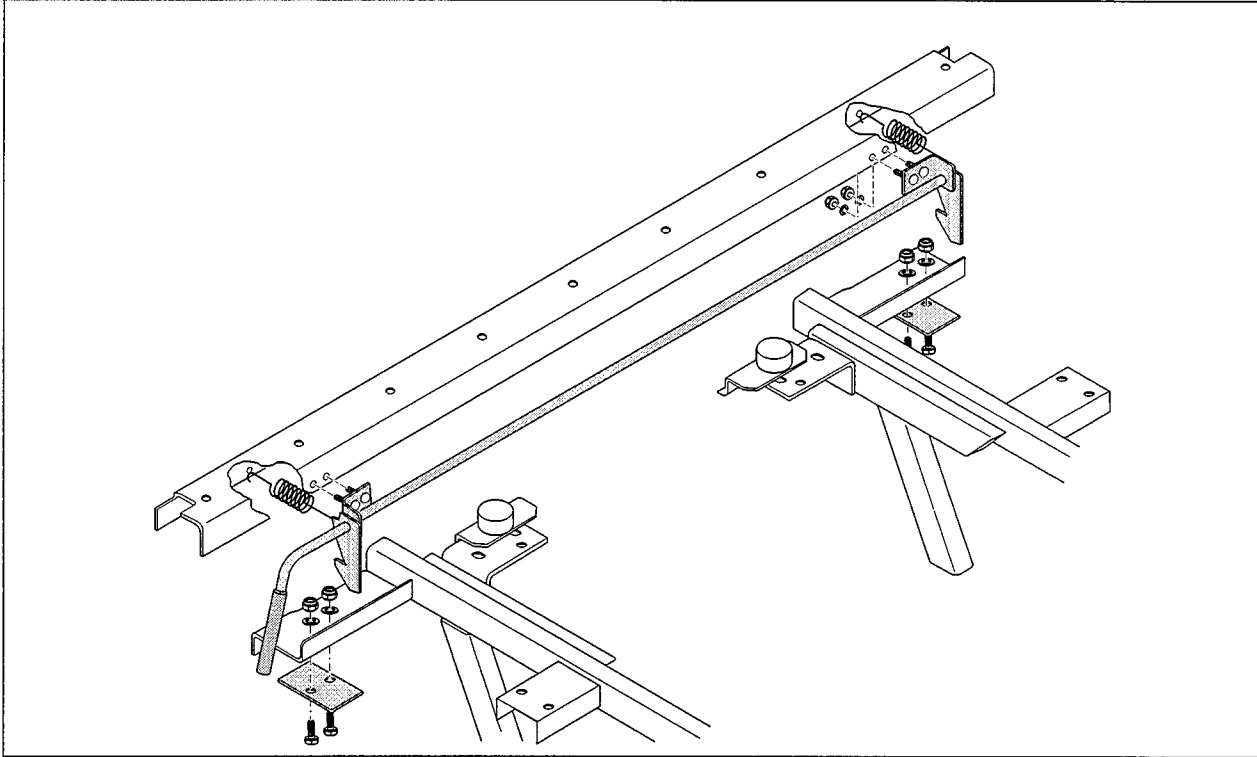

Fig. 2 Latch Assembly Removal
5. Remove and discard the latch assembly from the front of the dump bed. (See Fig. 2)